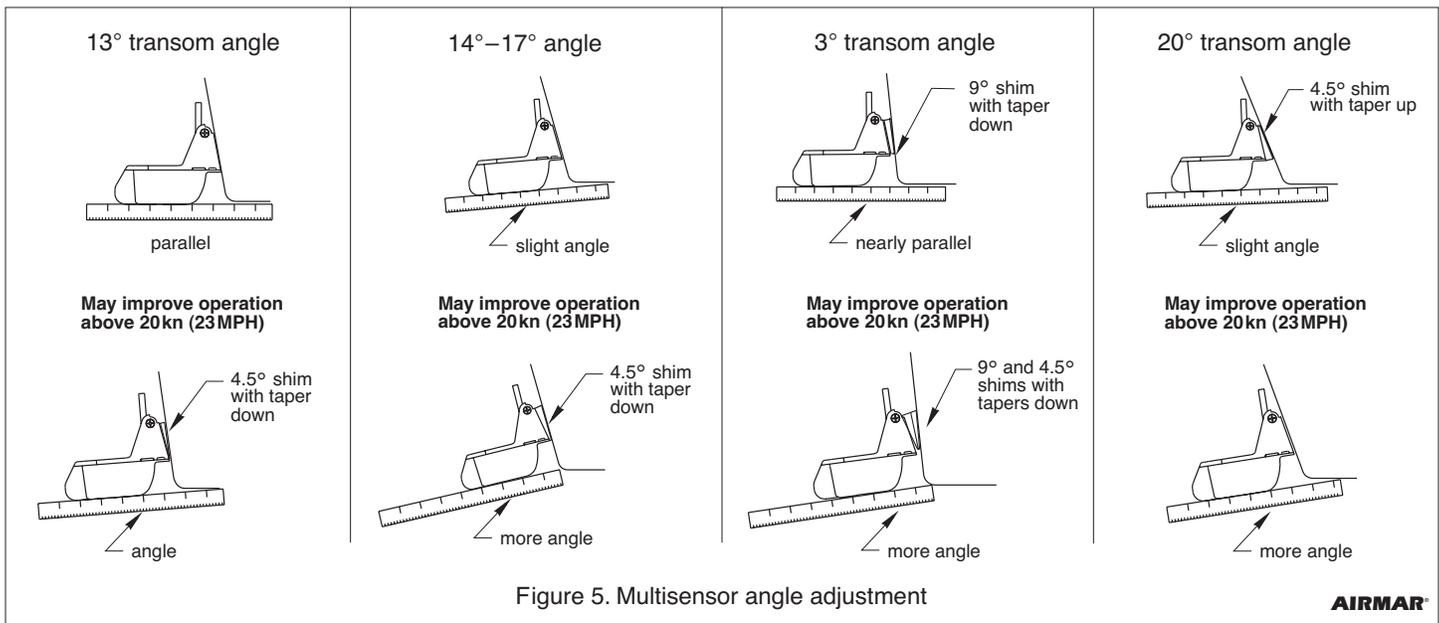

Figure 5. Multisensor angle adjustment
- **Standard transom** (13° transom angle)—The bracket is designed for a standard 13° transom angle. The 9° shim is *not* needed for this installation. If your boat is capable of speeds above 20kn (28MPH), install the bracket with the 4.5° shim, taper *down* (see Figure 5). This ensures that the paddlewheel will be in contact with the water at high speeds.
- **Stepped transom and jet boats** (3° transom angle) —Use the 9° shim with the taper *down*. If your boat is capable of speeds above 20kn (28MPH), install the bracket with both the 9° and 4.5° shims, taper *down* (see Figure 5). This ensures that the paddlewheel will be in contact with the water at high speeds. Install the 4.5° shim against the transom after shaving the interfering portion of the rails and lower bump. Place the 9° shim and bracket assembly on top.
2. Using a straight edge, sight the underside of the multisensor relative to the underside of the hull (see Figure 5).
- A. Increase the multisensor's angle in the water. Review "Plastic Shims" and see Figure 5.